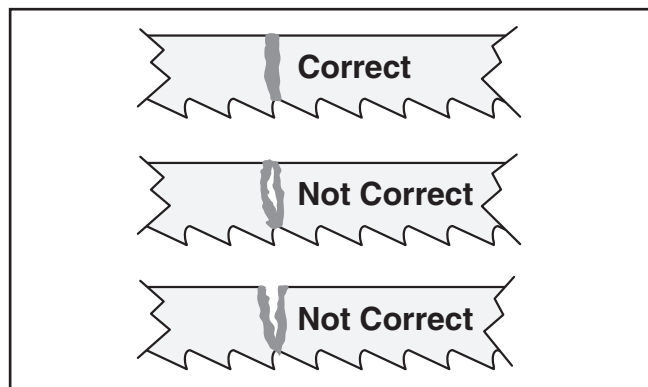

Figure 49. Blade welded joint examples.
11. Inspect the weld. The welded joint should be even across the width of the blade with no gaps (see **Figure 49**).